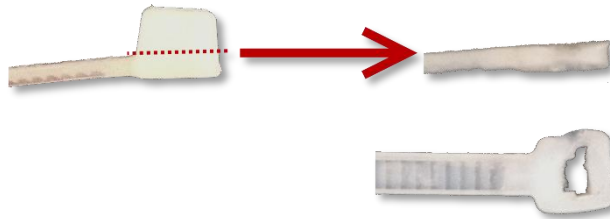

Figure 19: Required cut for zip-tie
4. Cut a zip-tie's receiving end so that the thickness is constant along the entire zip-tie. Sidecutters work best for this operation; fine adjustments can be made with a hobby knife when necessary. The cut is illustrated in Figure 19. This end of the zip-tie will serve as the stopper at the tip of the finger.